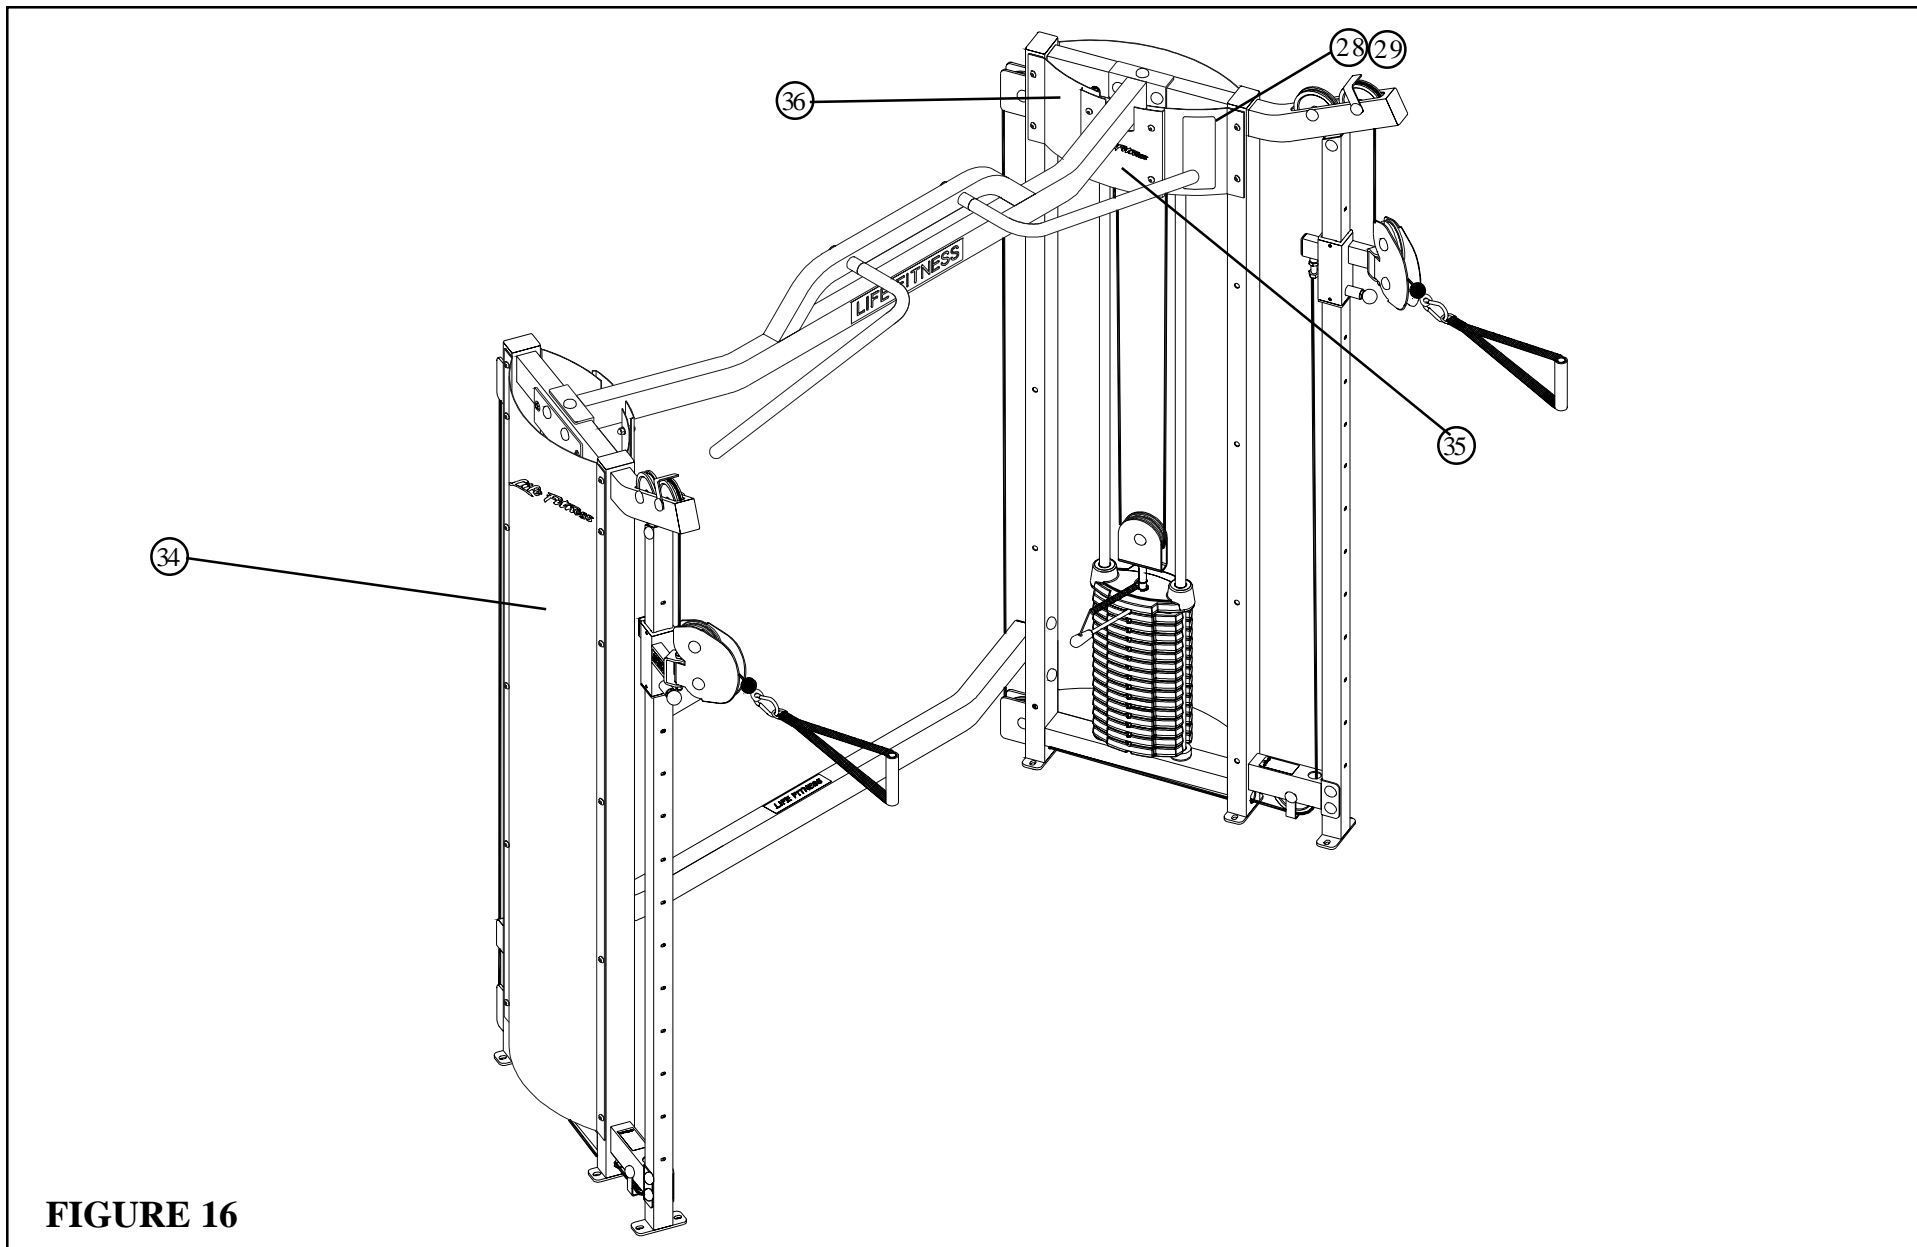

FIGURE 16
- Assemble the PLACARD LABEL (28) or the FOREIGN LANGUAGE PLACARD LABEL (29) to the both the SHROUDS as shown in FIGURE 16.